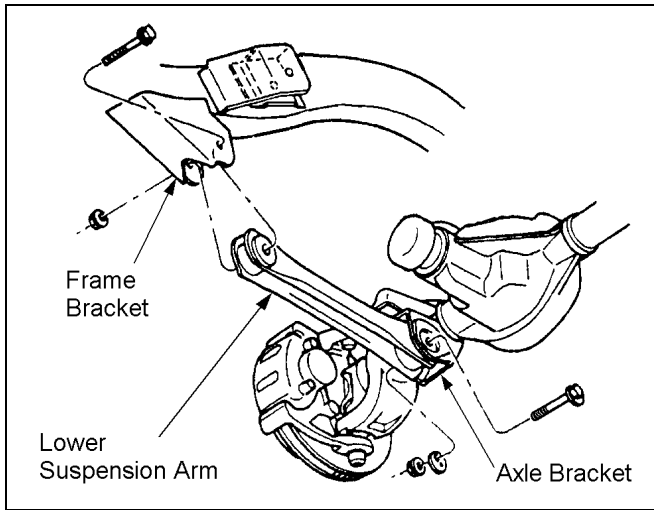

Figure 5
4) Remove the nut, cam, and cam bolt from the axle bracket. Remove the nut and bolt from the frame bracket. Remove the lower suspension arm. See Figure 5.